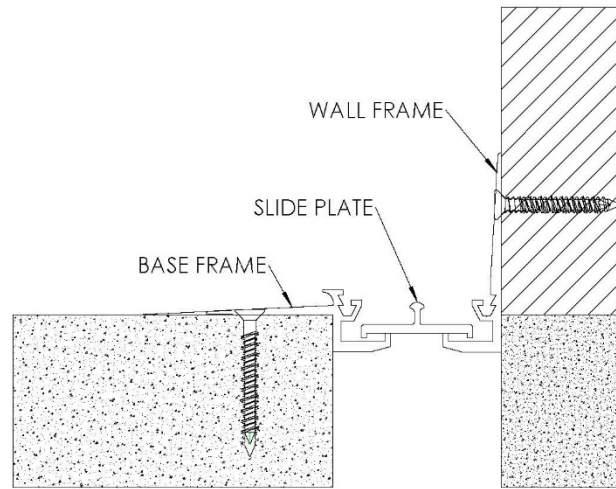

FIGURE 3
3. Place slide plate (not required on 1" joint sizes) in the lower channel of the base frame and wall frame with the bent ends of the plate pointing downwards . **See Figure 3**